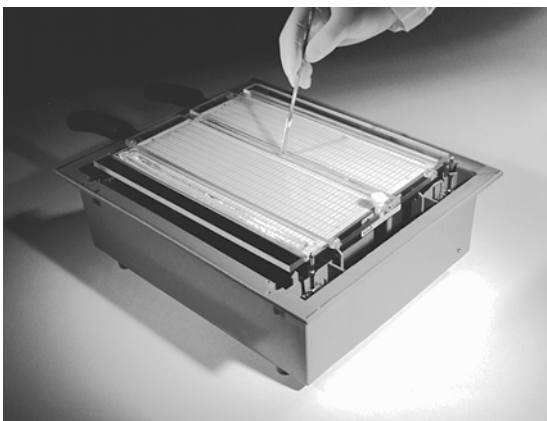

Fig 5 Stroking the buffer strip with a spatula or flat forceps
- 2 Place a few drops of distilled water along the top face of the buffer strip. Stroke the buffer strip with a spatula or flat forceps to ensure complete contact along the full length of the cathodic (–) edge of the gel (Figure 5 on page 5). The buffer strip should sit snugly within the slot.
- 4 Place a few drops of distilled water along the top face of the buffer strip. Stroke the buffer strip with a spatula or flat forceps to ensure complete contact with the gel (Fig 5). The buffer strip should sit snugly within the slot.